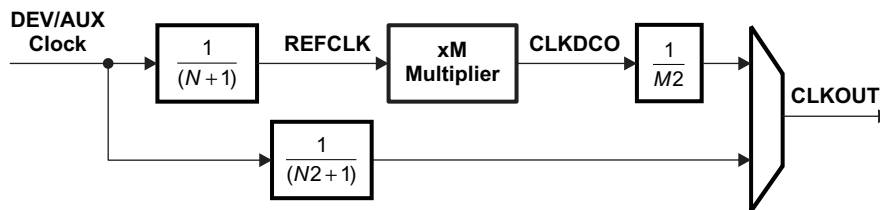
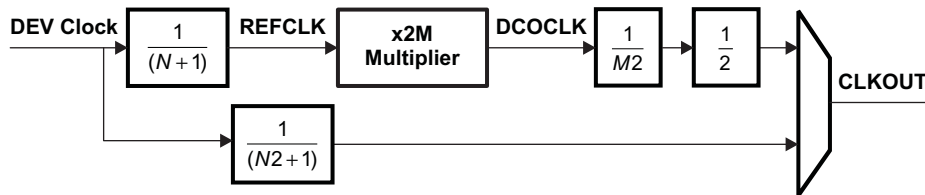

Figure 7-16. Top-Level PLL Simplified Block Diagram
Figure 7-17. PLL_ARM Simplified Block Diagram
The device contains 12 top-level PLLs, and 4 embedded PLLs (within the ARM Cortex-A8, PCIE, SATA, and CSI) that provide clocks to different parts of the system. Figure 7-16 and Figure 7-17 show simplified block diagrams of the Top-Level PLL and PLL_ARM. In addition, see the System Clocking Overview (Figure 7-6) for a high-level view of the device clock architecture including the PLL reference clock sources and connections.
(1) This parameter describes the limits on the programmable multiplier value M. The multiplication factor for the PLL_ARM is equal to $2 * M$ (also see Figure 7-17).
(2) The PLL Multiplier supports fractional values (up to 18-bits of fraction) except when the PLL Multiplier is < 20 OR > 2045.